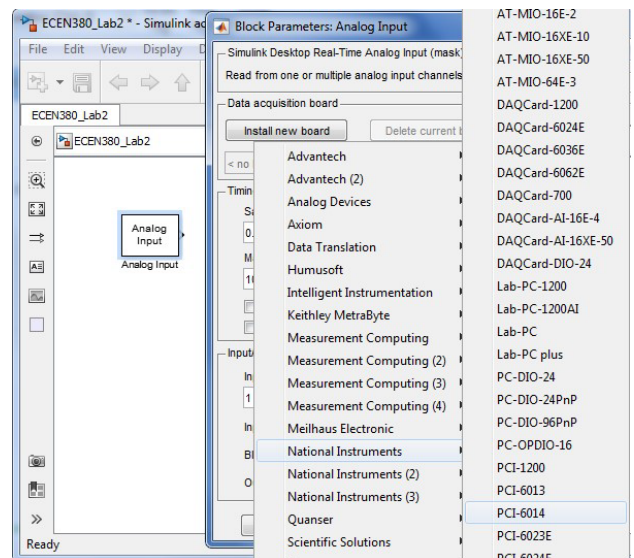

Figure 7 - Board Selection within the Analog Input Window
4. Double-click on the Analog Input block to open the Block Parameters: Analog Input window (see Figure 7).